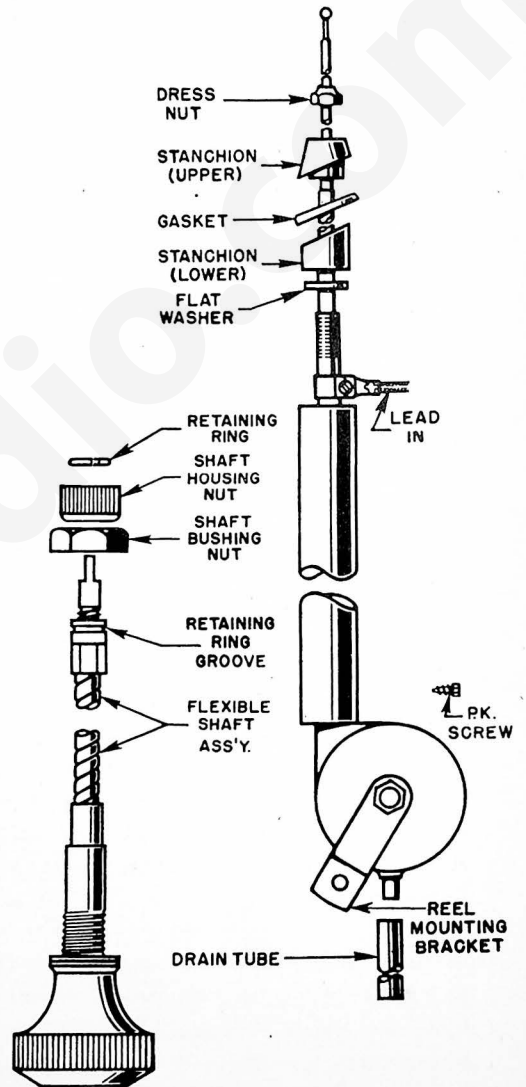

FIG. 2
2. Refer to Figure 2 and remove the dress nut, the upper stanchion and the rubber gasket from the antenna assembly.